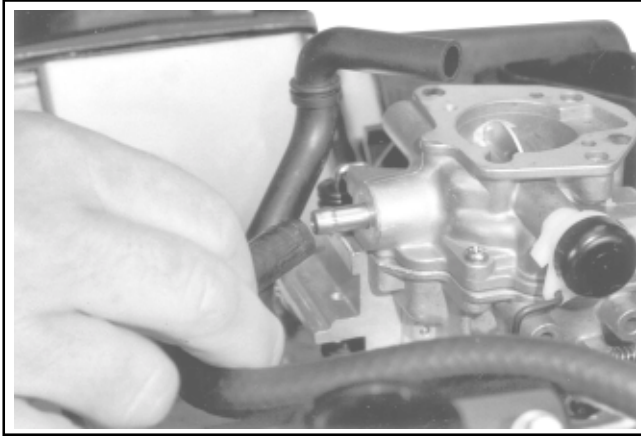

Figure 11-87. Connecting Fuel Inlet Line.
1. Attach the rubber breather hose to the breather cover. Connect the fuel inlet line to the carburetor and secure with a clamp. See Figure 11-87.